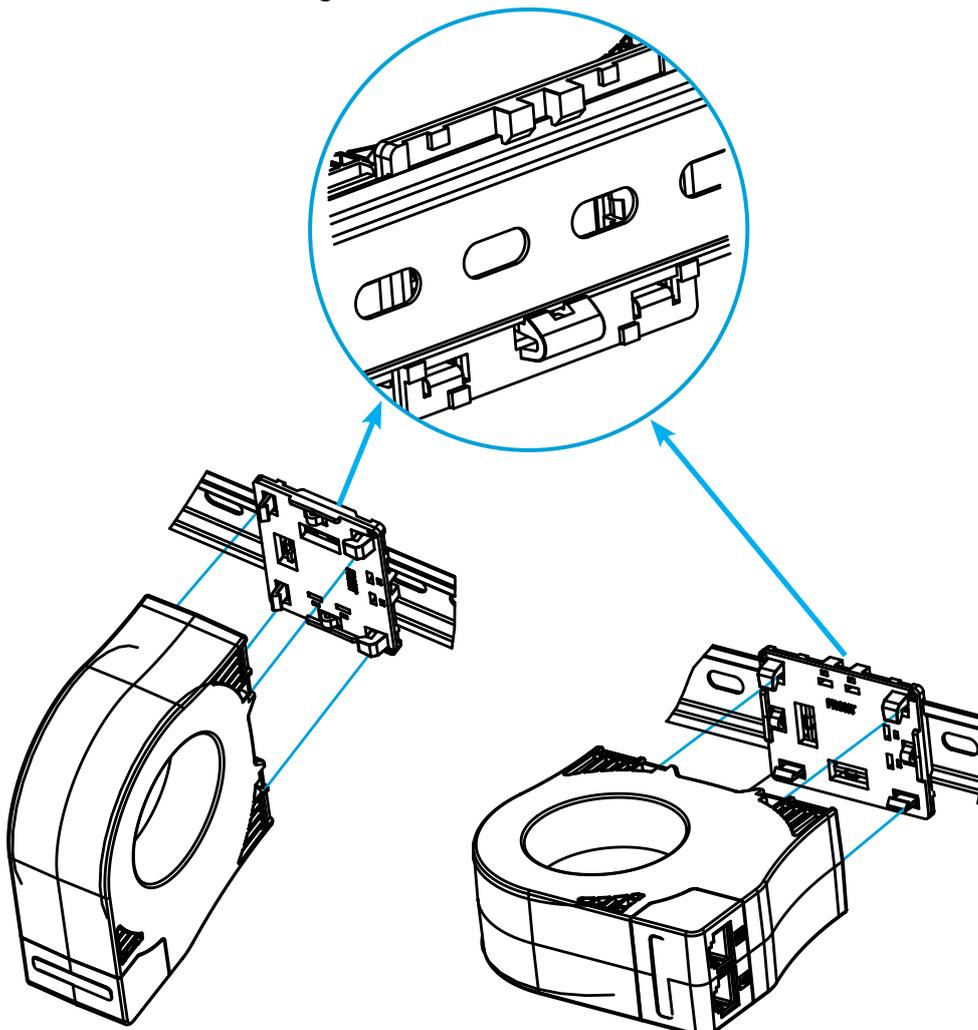

Figure 7: Installation on a DIN rail.
- 1.- Attach the bracket to the DIN rail. Be sure the side marked FRONT is visible. The bracket can be installed in 2 ways, depending on how the **WGB** is to be positioned, Figure 7.
- 2.- Mount the **WGB** on the bracket, Figure 7.